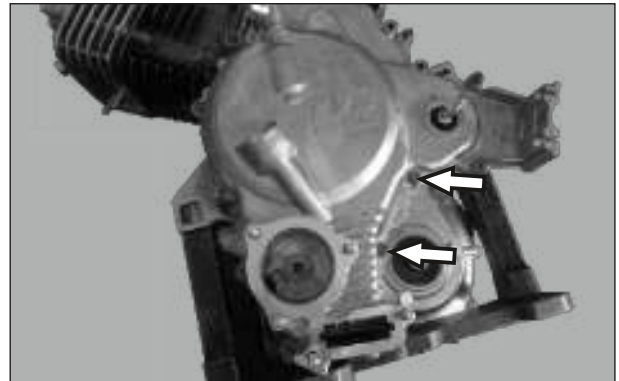

Fig. 3.17
- Loosen and remove 2 nos. hexagonal flange bolt M6x122 from Cover crank case R. (Fig. 3.17)